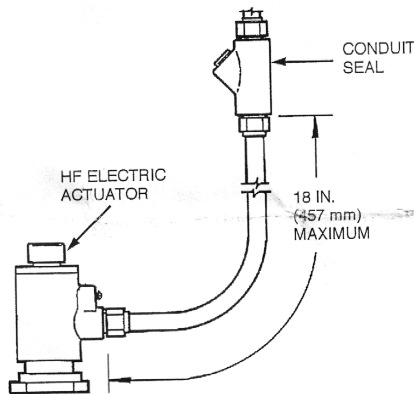

FIGURE 5
4. When using the HF electric actuator in hazardous locations, a conduit seal must be installed within 18 in. (457 mm) of the actuator conduit connector as shown in Figure 5. All wiring must be in accordance with Articles 500 through 503 of the National Electrical Code.